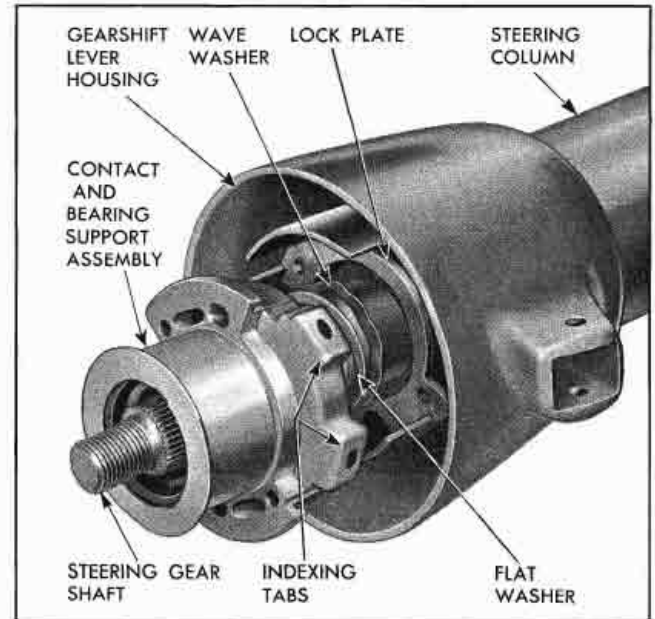

Fig. 7-19 Bearing Support Assembly and Gearshift Lever Housing
14. Remove flat washer and wave washer from shifter tube (Fig. 7-19).
18. Slide gearshift lever housing off end of steering column (Fig. 7-19).
13. Install gearshift lever housing over end of steering column (Fig. 7-19).
over shifter tube, indexing two tabs of support in cutouts at upper end of steering column (Fig. 7-19). The bearing support will properly center shifter tube at upper end of column.